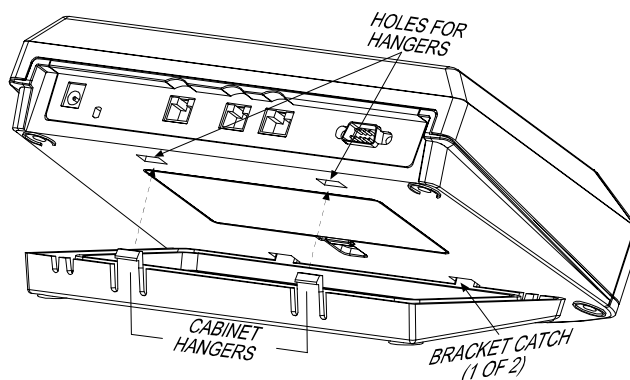

Figure 6 – Table Mounting
The Base Unit can be located on a table (Figure 6), or on a wall (Figure 7). In both cases the Base Unit should be near an electrical outlet and phone line.
1. Insert the cabinet hangers into the holes in the position shown in Figure 6.